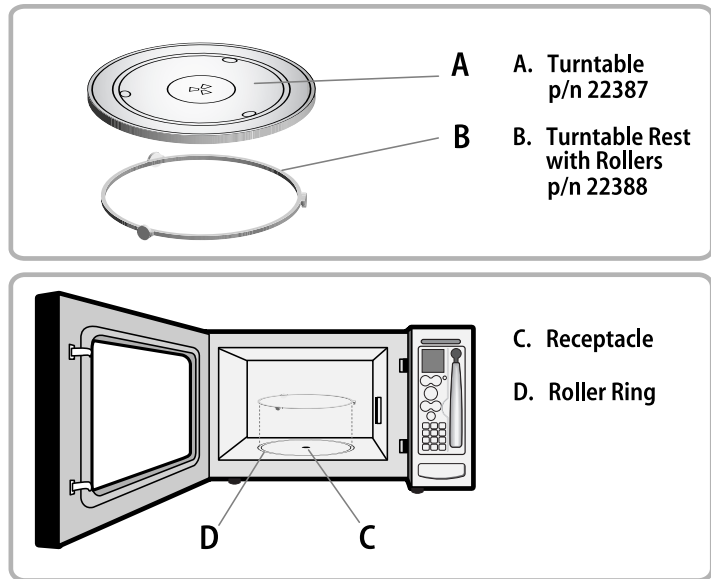

FIGURE 1. Turntable Installation
3. Verify that you have all the items for turntable assembly, see figure 1. Be sure all items are in good condition. Check the oven for any damage, such as a misaligned or bent door, damaged door seals and sealing surfaces, broken or loose door hinges and latches, or dents on the door or interior walls.
The turntable must be installed before using the Beyond Microwave Oven. Refer to Figure 1 for turntable installation.